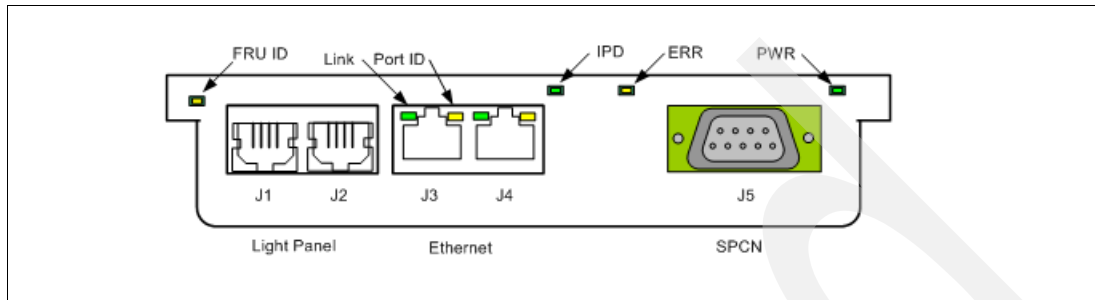

Figure 2-8 System controller card
2.1.5 System controller (SC) card
Two service processor cards are on the CEC midplane. These cards are referred to as system controllers (SC). Figure 2-8 shows a system controller.